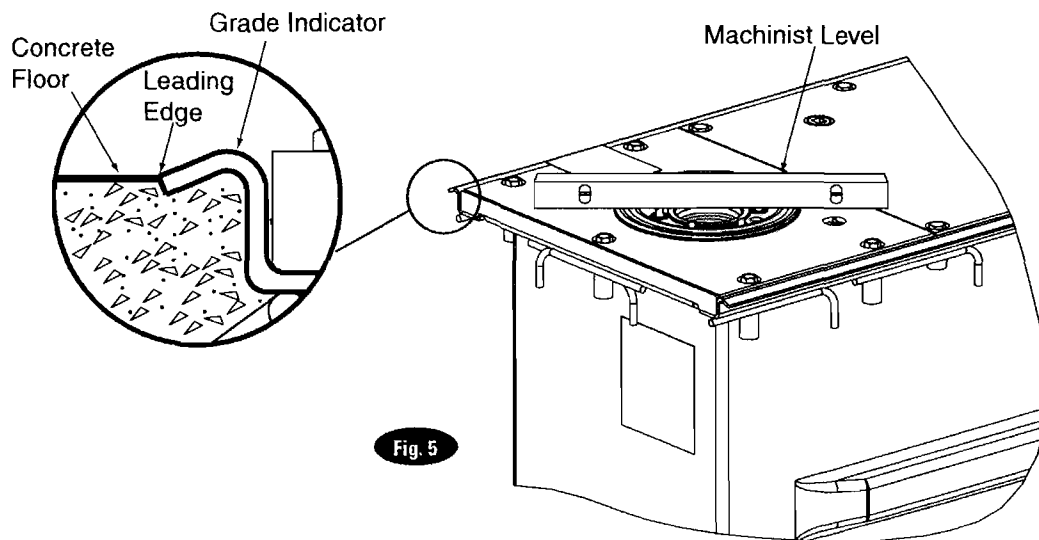

Fig. 5
IMPORTANT Owner: Your Installer Is Responsible For The Concrete Floor Being Finished To The Leading Edge Of The Grade Angle (1/4" Below Top Of Lift), NOT To The Top Of The Lift, Fig. 5. Failure To Comply Will Void Warranty.
E. Plumb and level by placing machinist level on top of jack. Do Not plumb or level off unit frame. See Fig 5.
C. After lift is backfilled, make final elevation and plumb checks, Fig 5.